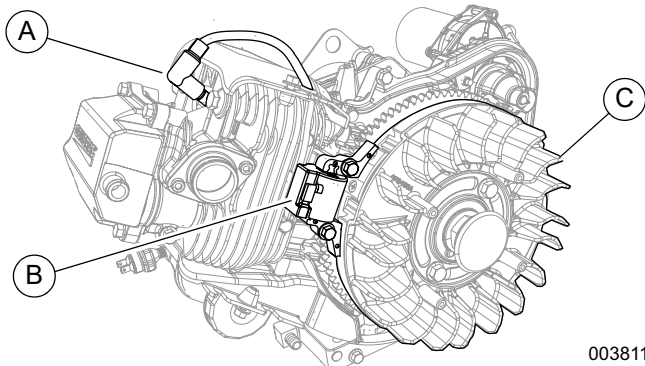

Figure 4-1. Ignition System Components
See Figure 4-1. Major components of the ignition system include engine run switch (if equipped), spark plug (A), ignition coil assembly (B), and engine flywheel (C).